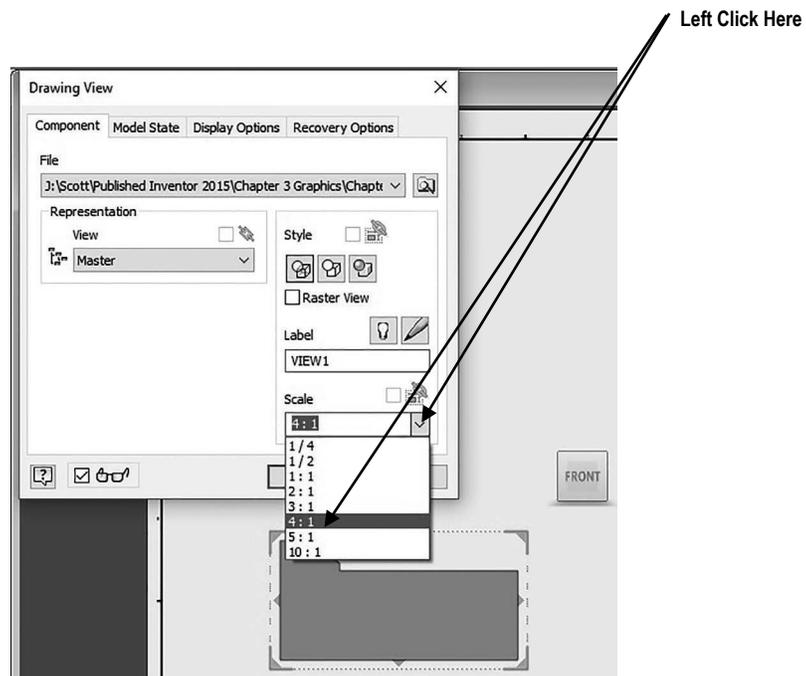

Figure 15
19. Left click on the **Scale** drop down box and set the drawing scale to **4:1**. The size of the wedge block will become larger as shown in Figure 15. Left click on **OK**.